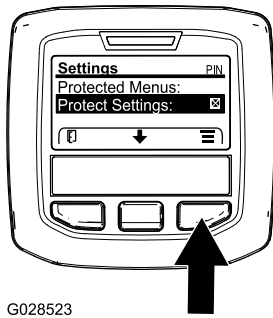

Figure 8
1. From the MAIN MENU, use the center button to scroll down to the SETTINGS MENU and press the right button (Figure 8).